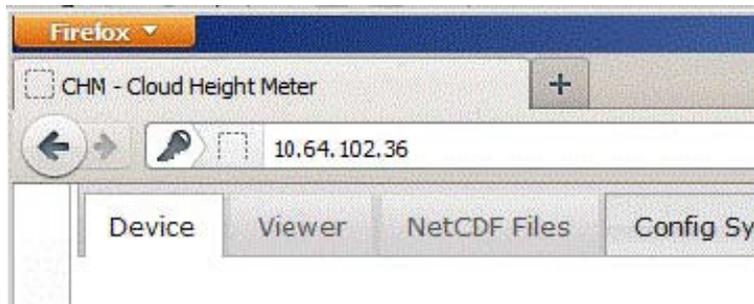

Figure 16 Firefox browser for a connection with the CHM 8k (shown here with fixed IP address).
One of the 3 IP addresses can be entered into a web browser (see Figure 16) for communication with the device. Figure 21 Web interface: Config Network (superuser).shows the "Config Network" tab in the Internet browser. Changing the user IP address (3) requires superuser authorization in the device tab.